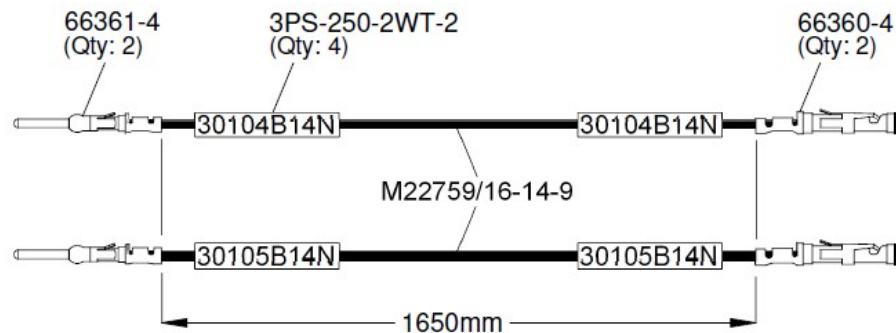

Figure 25: Preparation of Fuselage Ground Wires
12.2.1.3 Prepare the ground wires according to Figure 25.